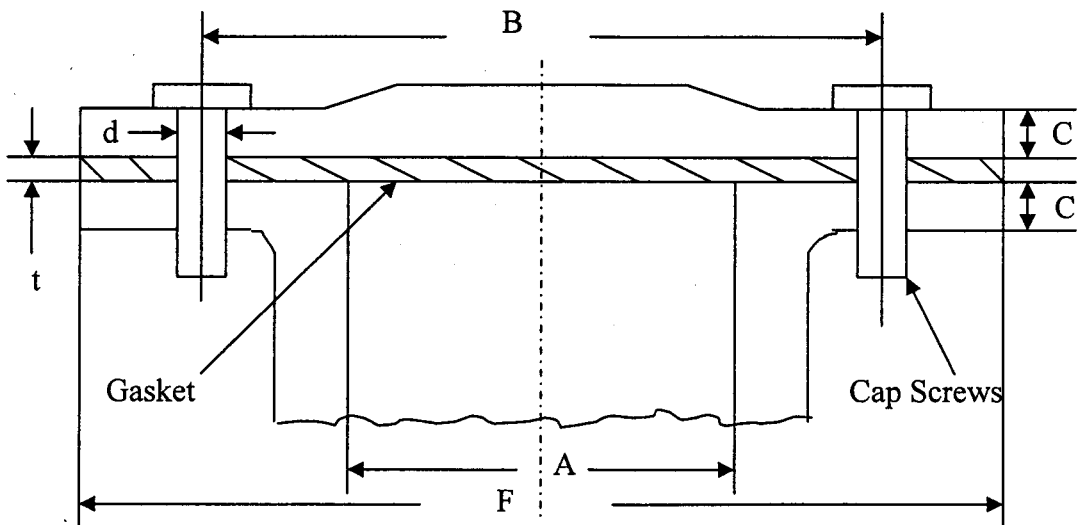

Fig. 2 : Pressure Vessel
- (b) The dimensions of a gasketed pressure vessel joint shown in Fig. 2 are: $A = 140$ mm, $B = 180$ mm, $C = 28$ mm, $t = 4$ mm and $F = 240$ mm. The connection between a cylinder head and a gasketed pressure vessel is made by a number of cap screws of nominal diameter of 16 mm. The pressure vessel is used to store gas at a static pressure of 8 MPa. A leak proof seal can be obtained if the average gasket pressure is at least 14 MPa. For cap screws, $A_t = 160$ mm², $E_c = 210$ GPa, $S_p = 600$ MPa, $S_{yt} = 660$ MPa. The gasket is made of asbestos for which E_g is 480 MPa. Assuming a load-multiplication factor as 2, determine –